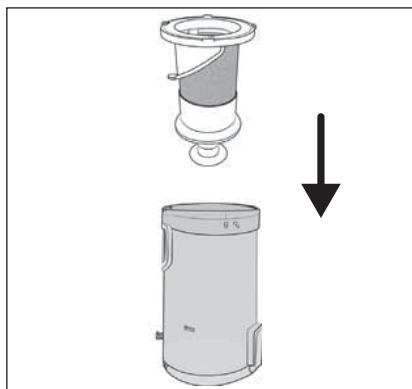

Fig. 26
① Note
- 6) Insert the stainless steel filter **6** into the dirt container **7** and push it all the way down (see Fig. 26). Pay attention to the different sized locks on the stainless steel filter **6**. The stainless steel filter **6** can only be inserted into the dirt container **7** in one position due to these locks.